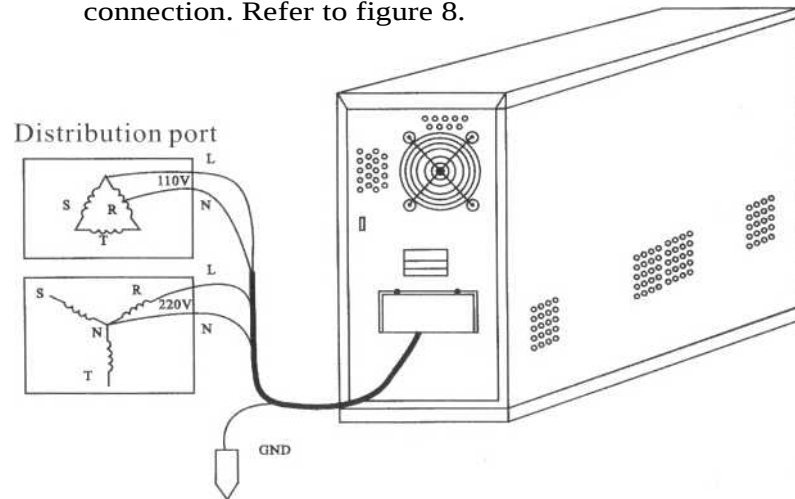

figure 8: input single-phase 220V and 110V distribution wire system
7. Pinpoint the location close to ground object or the starting point in the power distribution plate for ground connection. Refer to figure 8.